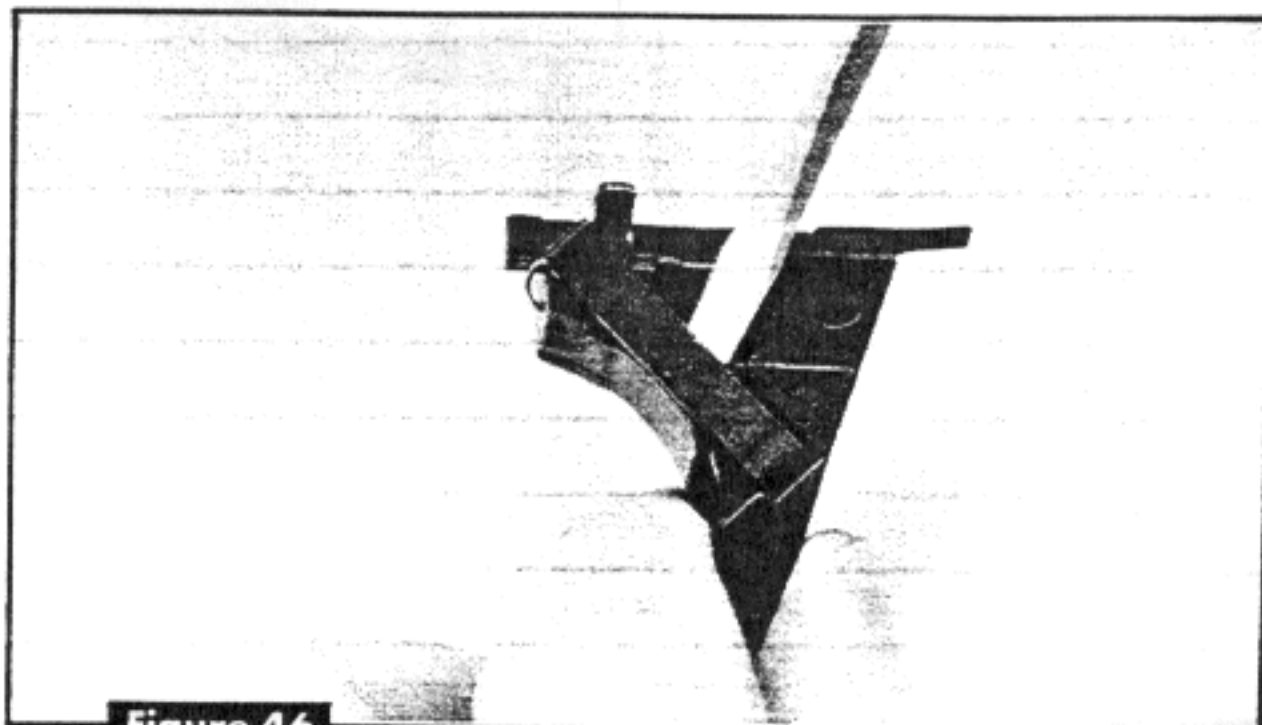

Figure 46
- REMOVE the connector as shown (Figure 46).